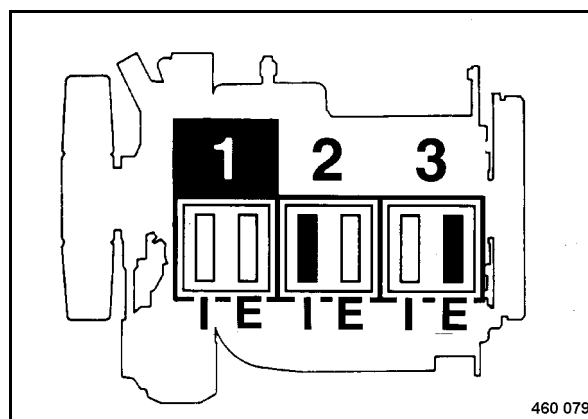

Fig. 122
- Check the valves marked black on cylinders 2 and 3 (Fig. 122), adjust if necessary.